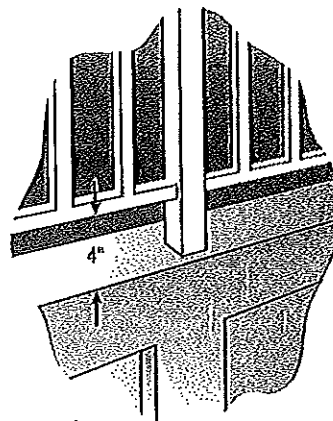

Figure 9
3. Where the top of the pool structure is above grade or surface, such as an above ground pool, the barrier may be at ground level, such as the pool structure, or mounted on top of the pool structure. Where the barrier is mounted on top of the pool structure, the maximum vertical clearance between the top of the pool structure and the bottom of the barrier should be 4 inches (figure 9).